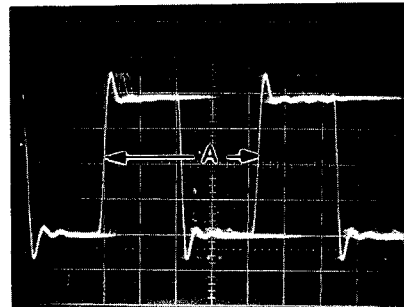

Fig. 28
- Adjust A =  $0.21 \pm 0.01$   $\mu$ sec. of Fig.28 with R312 in the luminance section of PV01.
- Focus the scope on the first multiple waveform trace (Fig. 28).